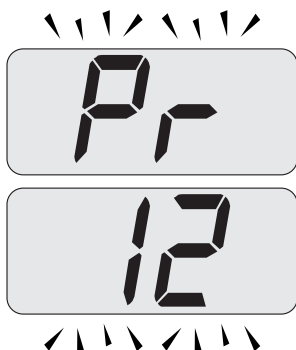

Fig. 8.33
- Scroll the various parameters using keys 13 or 14 until the letters **Pr** that alternate with code **12** are displayed on the LCD display, indicating that "parameter 12" (Fig. 8.33) has been activated.
- Press keys 12 and 13 (Fig. 8.31) at the same time to exit without changing the value (return to the parameters list Fig. 8.33).